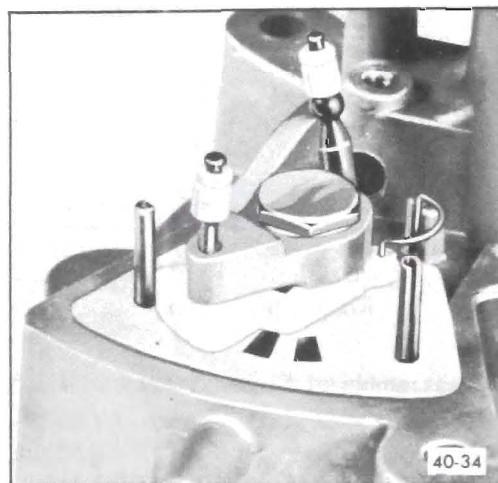

Figure 40-39 - Installing Distributor Arm Assembly
5. Install distributor valve bushing, washer, distributor arm assembly, washer and secure with screw. Tighten to 12 lb.in. See Figure 40-39.